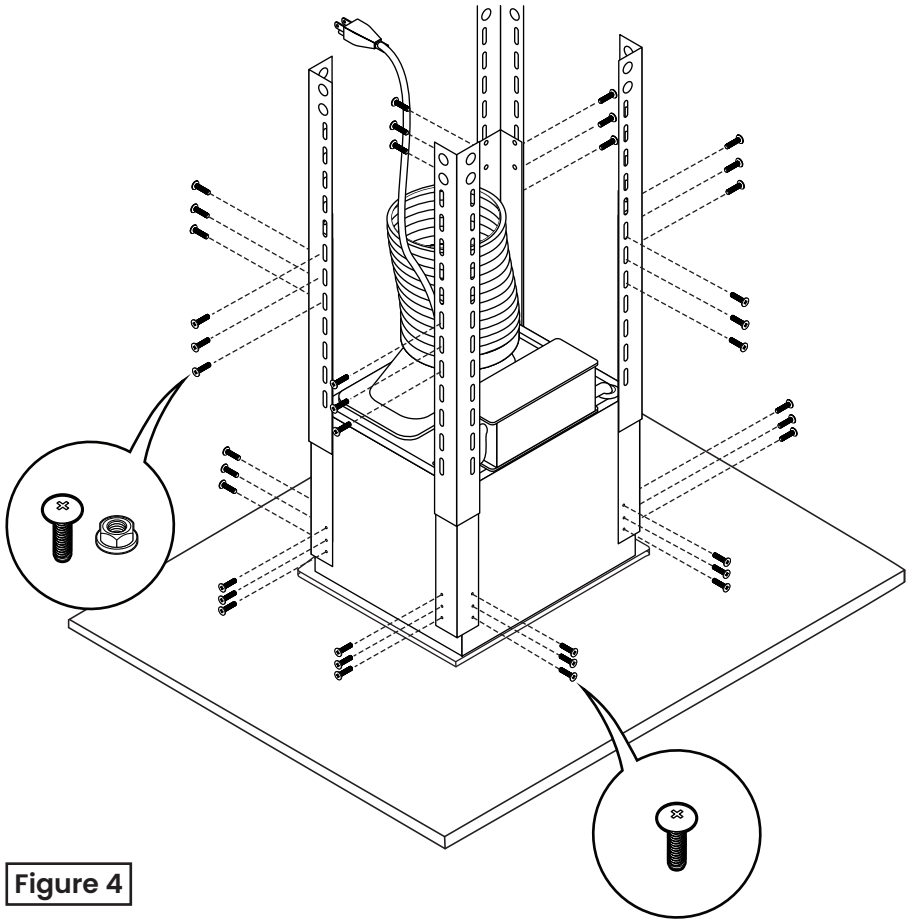

Figure 4
8. Install four L-shaped brackets on top of the range hood, adjust the brackets to the desired length, and secure them with screws, as shown in Figure 4.